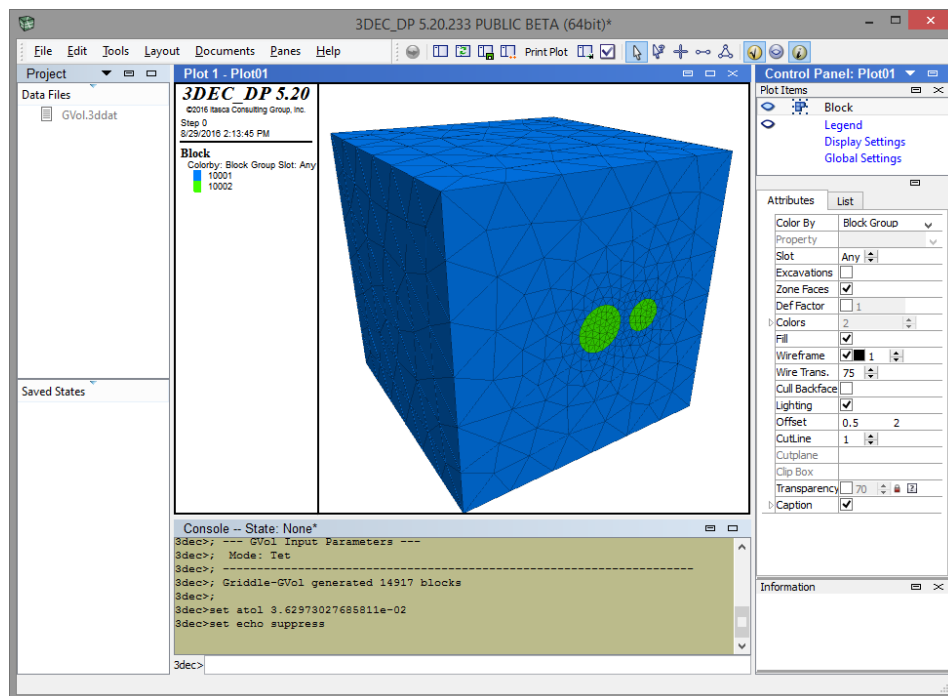

Figure 101: Griddle generated rigid block model for 3DEC.
3. Select your resulting triangle surface mesh and type **_GVol** with **Mode:Tet** and **OutputFormat:3DEC**. Your resulting block model (GVol.3ddat in your current working directory) can be called into **3DEC**. Figure 101 shows the resulting block model.